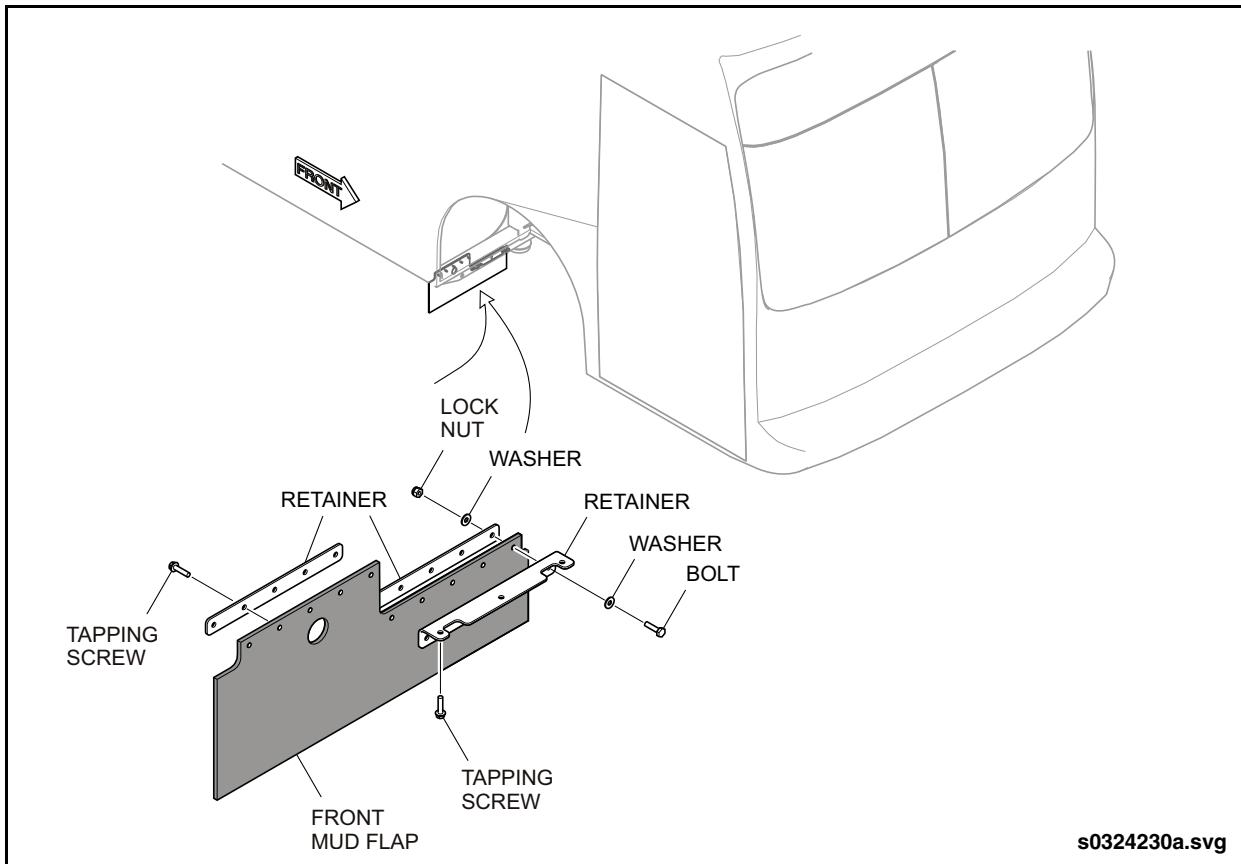

Fig. 13-17: Front Mud Flap
2. Remove the bolts, lock nuts, tapping screws and retainers from the mud flap mount. See "Fig. 13-17: Front Mud Flap" on page 45.